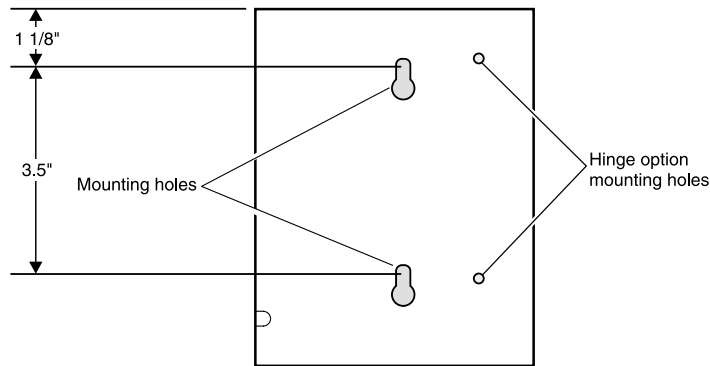

Figure 5. HRE-204 Backplate
- 5 Use the backplate as a template to mark the wall locations for drilling the mounting holes (Figure 5).